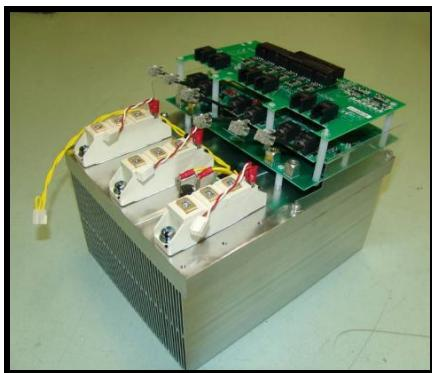

Figure 7.3.13. Disassembly of the upper Gate Drive board
- 2) Remove the 6 plastic screws **M3x8 DIN-933**. (See figure 7.3.13).
- 1) Put the board in the correct position (see figure 7.3.13).
See figure 7.3.13 while following the next instructions: